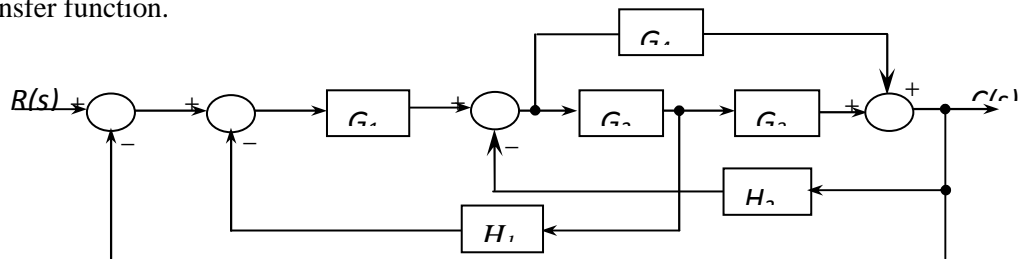

Fig. Q 8.
- 8 Reduce the block diagram shown in Fig. Q 8 into canonical form and obtain its closed loop transfer function.
- 10 For the system shown in Fig. Q 8, draw signal flow graph and obtain $C(s)/R(s)$ using Mason's gain formula.